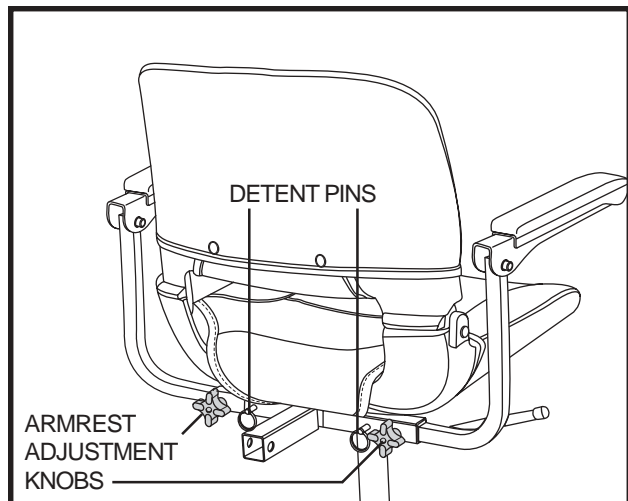

Figure 17. Armrest Width Adjustment
1. Loosen the armrest adjustment knobs. **See figure 17.**